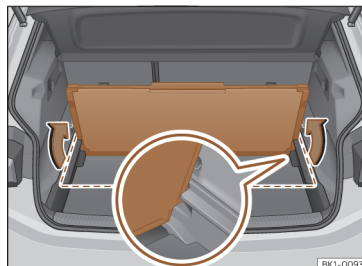

Fig. 172 In the luggage compartment: attach the second luggage compartment floor.
- Once folded, lift it up and insert it into the side brackets, with the open side facing downwards >>> **Fig. 172** (enlarged image).